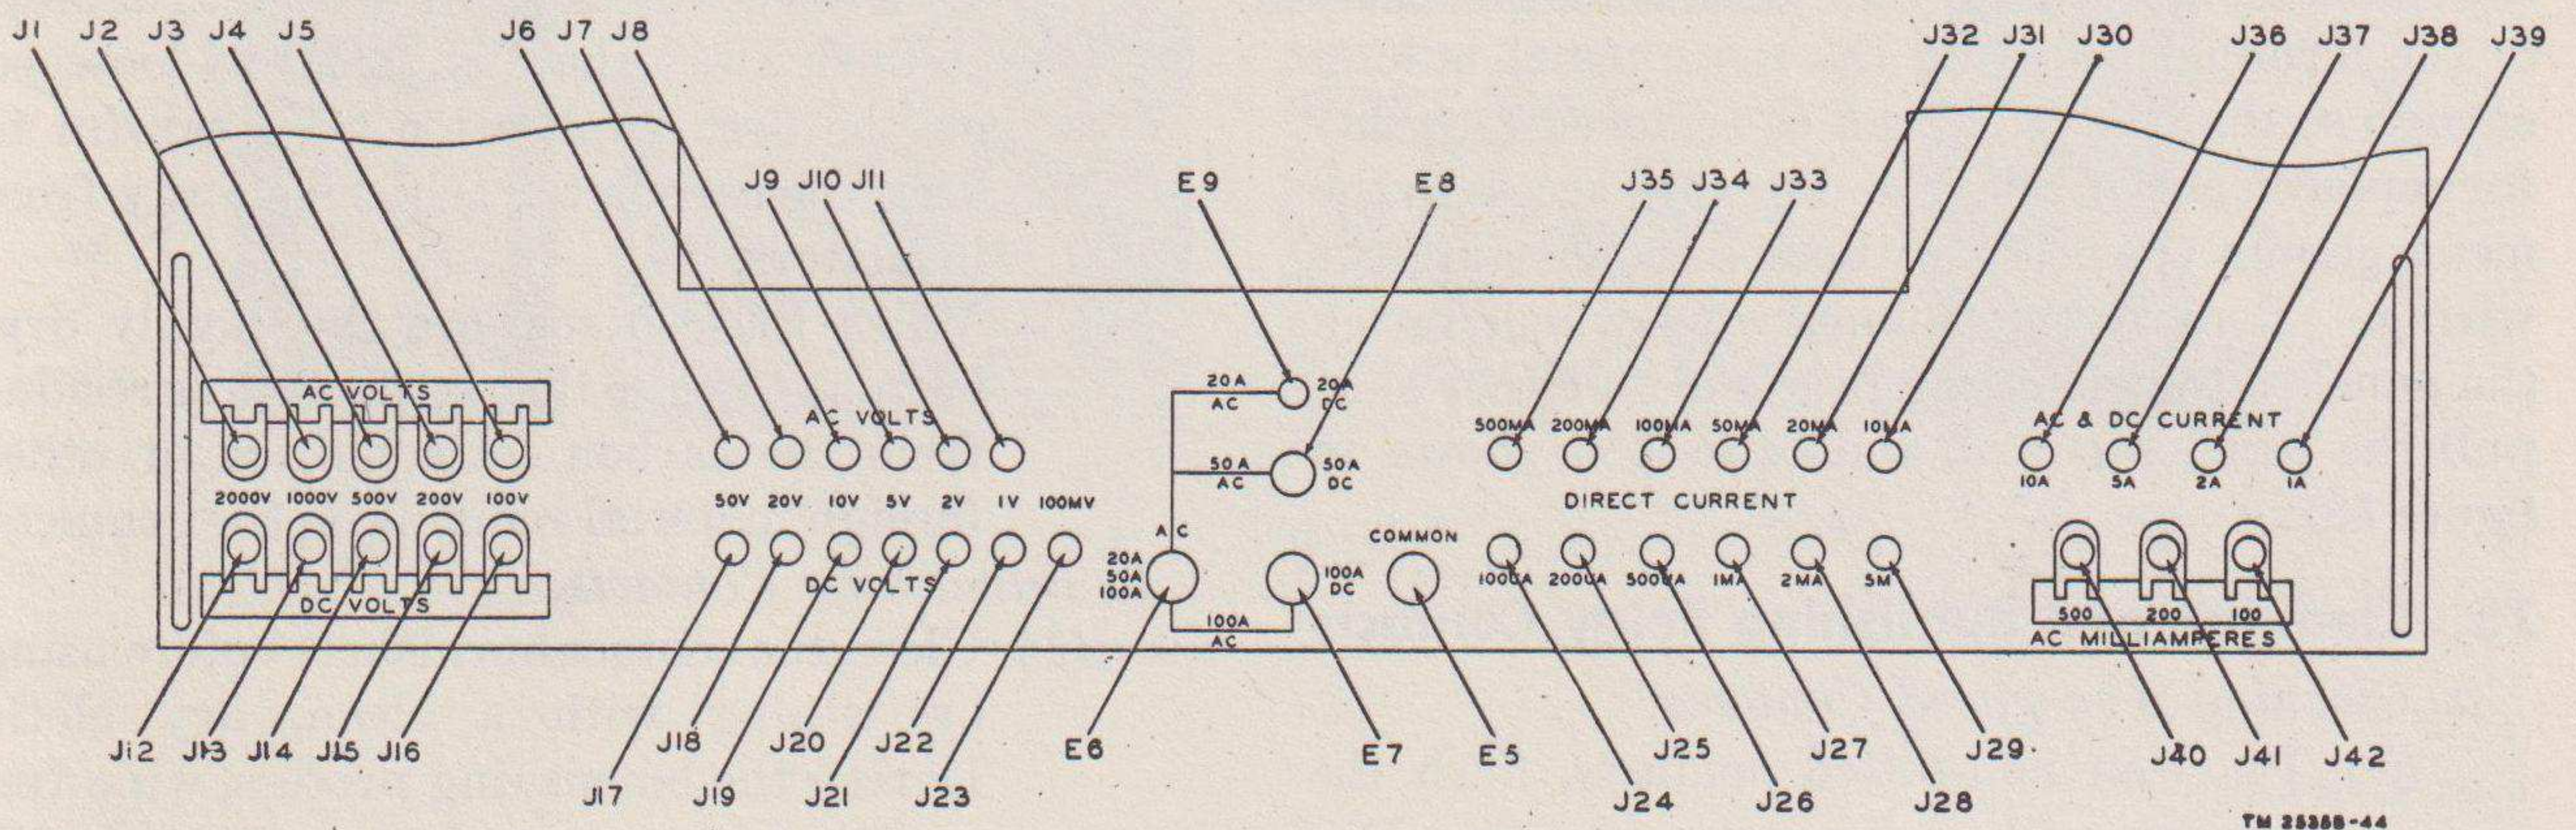

Figure 33. Jack and binding post panel of test set, location of parts.
Jack J12 defective (fig. 26)-----	Check jack J12 (fig. 33, par. 66l). Replace if defective (par. 71a).
Jack J13 defective (fig. 26)-----	Check jack J13 (fig. 33, par. 66l). Replace if defective (par. 71).
a. *Jacks.* The location of the test set jacks with their reference symbol designations is shown in figure 33. The jacks are mounted on four separate phenolic panels which, in turn, are mounted on the frame of the test set. To remove a jack, remove the output control knobs and the U-shaped phenolic panel on the front of the test set (fig. 2). Then remove the screws that hold the panel on which the jack to be replaced is mounted to the framework.
b. *Binding Posts.* To remove a binding post (fig. 33), place the test set on one end and remove the bottom plate. The binding post connections can be reached easily with the test set in this position.